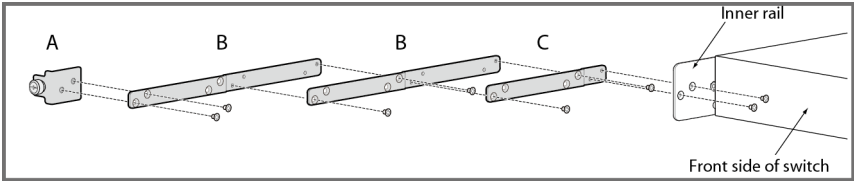

Figure 1. Factory-Shipped Adjustment Bracket
- Figure 1: Factory-Shipped Adjustment Bracket 15
The adjustment bracket fittings are factory-shipped assembled in the combination shown in Figure 1 and Table 1.